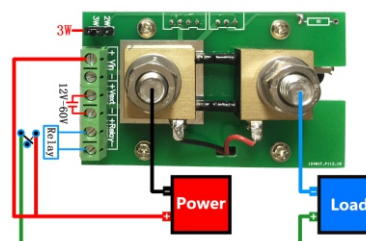

Figure 3 Three-wire connection Relay wiring diagram
- To carry out the wiring is in accordance with wiring diagram shown in Figure 3. The positive pole of power supply is connected to the measuring board V +, and the negative pole of power supply is connected to left large screw of shunt on the measuring board; the negative pole of load is connected to the right large screw of the shunt. Control terminal of the relay need to be connected between positive pole of load and positive pole of power supply. Next needs an external power supply to power up the meter, and the external power supply voltage is DC10V - 30V. The "relay" place connects relay, and voltage of relay need to match with the voltage of external power supply.